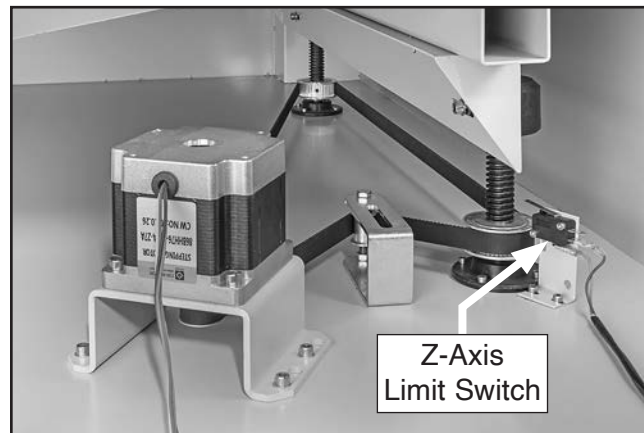

Figure 28. Example of location of Z-axis limit switch (G0874 shown).
16. Open front access door and locate Z-axis limit switch (see **Figure 28**).